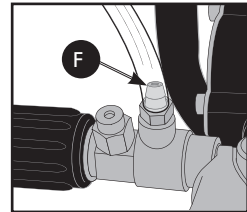

Figure 21
### How To Apply Chemicals/Cleaning Solvents (Fig. 21)
1. Ensure detergent siphon hose (Figure 21) is attached to barbed fitting location near high pressure hose connection of pump as shown.